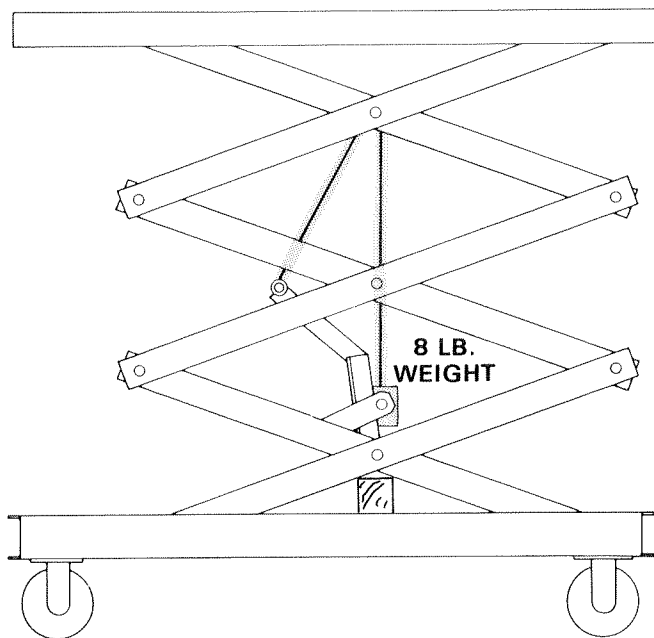

Figure 29. Counter Balancing Lift Arm.
- a. Attach rope to end of lift arm, around roller and wrap once around center pivot bar which is third from bottom center pivot bar. Attach a weight of about 8 lbs. to end of rope, Figure 29.